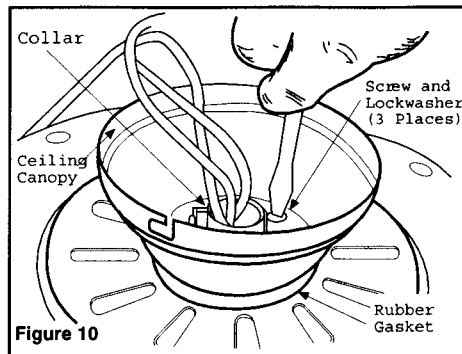

Figure 10
4. Place the rubber gasket over the remaining three screws, route the wires exiting the top of the fan motor through the ceiling canopy then proceed to place the ceiling canopy over the collar at the top of the motor (Figure 10).
5. Align the mounting holes with the holes in the motor and fasten, using the three screws and lock-washers provided in the close-to-ceiling mount hardware packet (Figure 10).